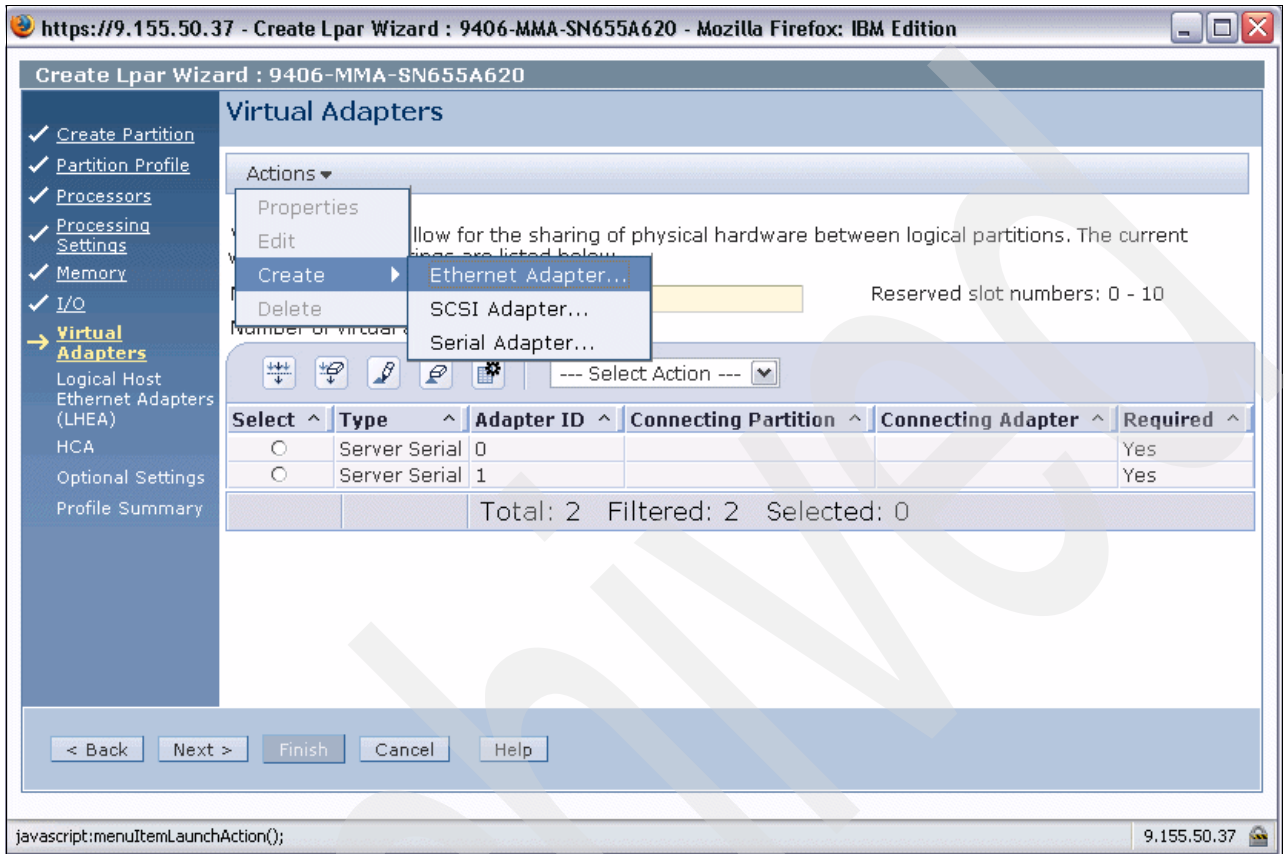

Figure 6-10 Create LPAR Virtual Adapters dialog
- In the Virtual Adapters dialog we choose **Actions** → **Create** → **Ethernet Adapter** (as shown in Figure 6-10) to create a virtual Ethernet adapter for inter-partition VLAN. This way we do not need to share the physical HEA port for inter-partition communication (see 1.2.2, “Virtual Ethernet support” on page 5).